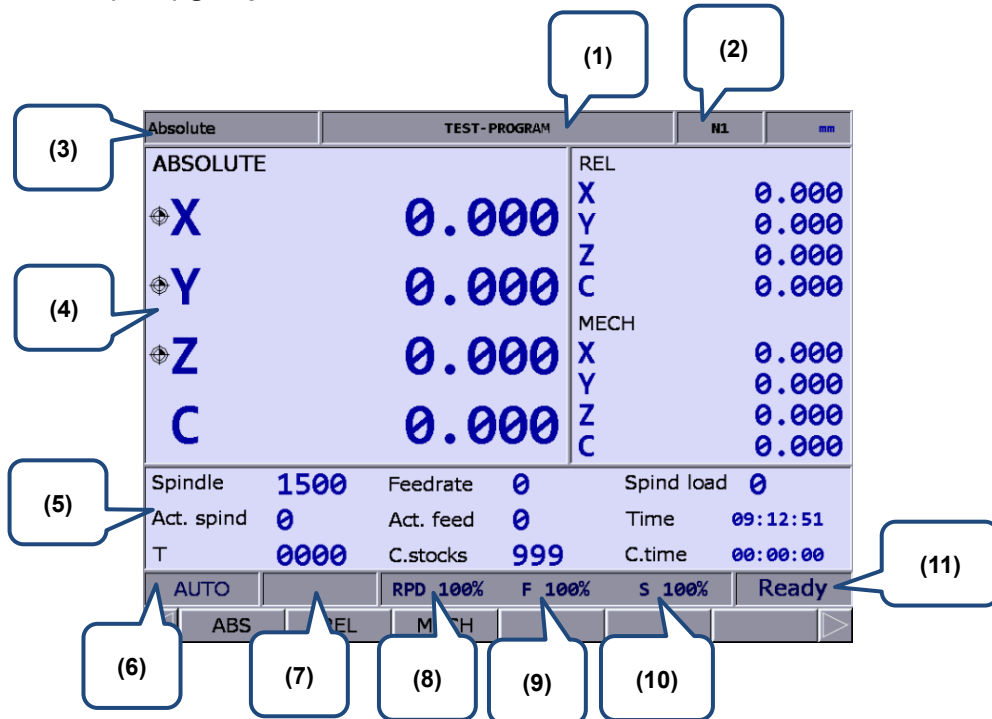

Figure 5.8.1
In Figure 5.8.1, (11) displays the current status of the system for your reference. There are 7 system statuses with the display priority as follows: MLC stop > SV NO RDY (servo not ready) > Emg Stop (emergency stop) > PROC (in progress) > RUN (in execution) > STOP (program stops) > Ready.